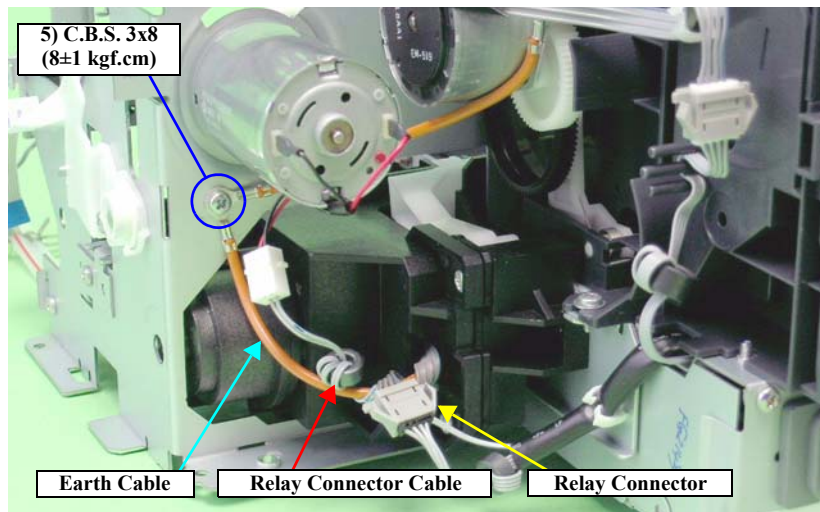

Figure 4-97. Disconnecting the Pump Motor Connector
- Referring to Figure 4-97, correctly route the Relay Connector Cable.